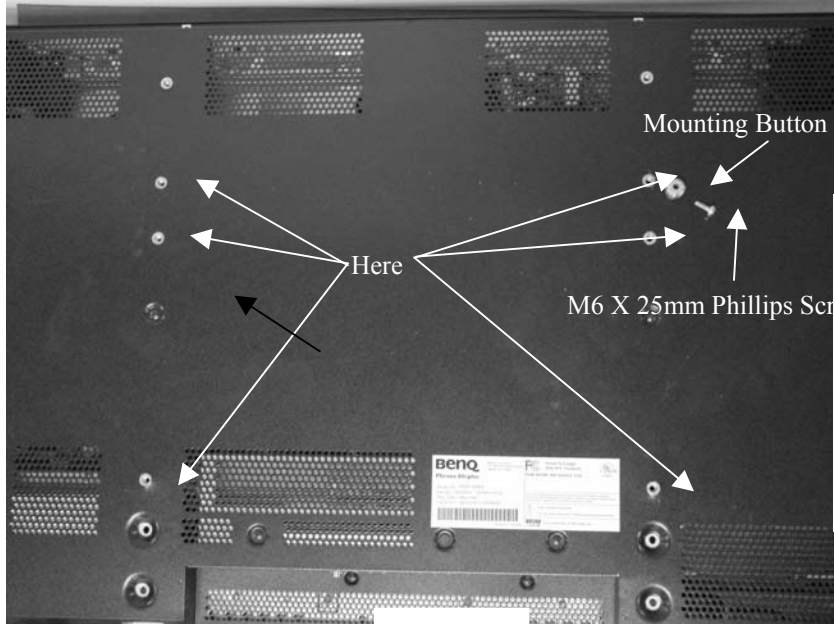

Figure 6
1. Attach six mounting buttons to plasma using six M6 x 25mm Phillips head screws provided (see Figure 6).